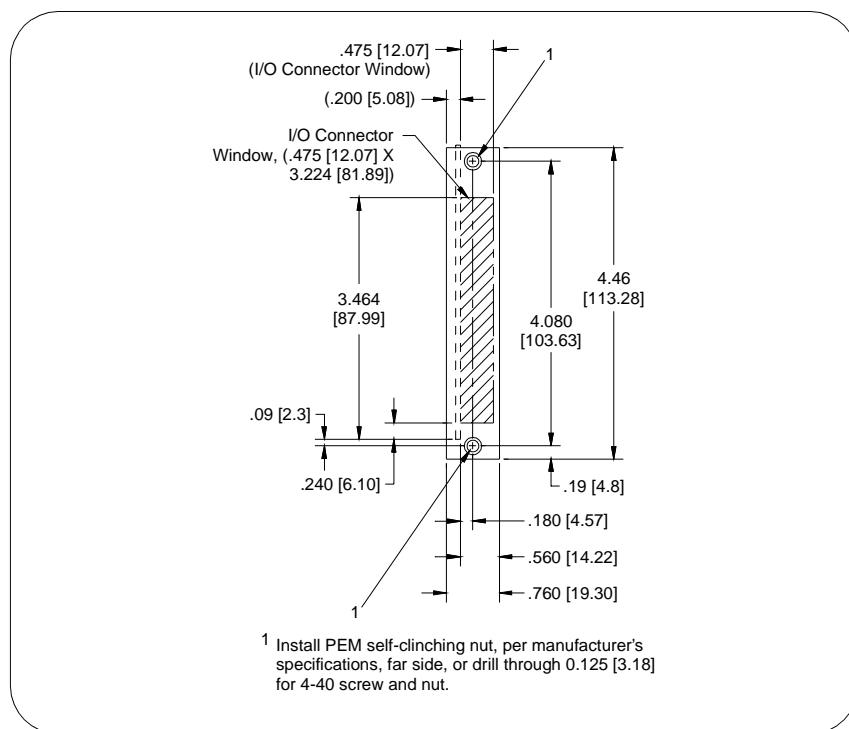
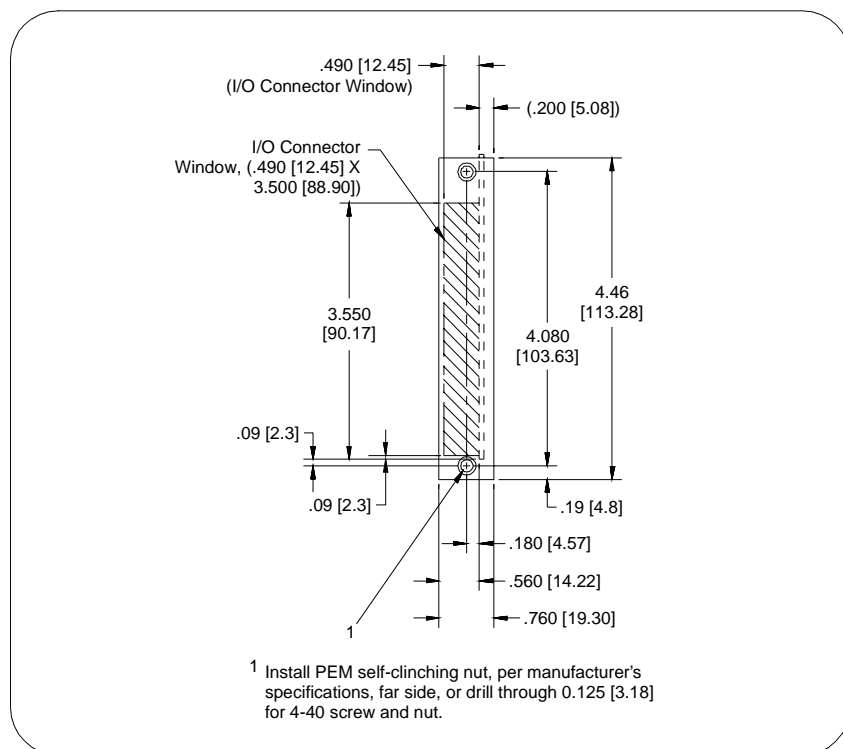

Figure 6-6. Front View of PCI Board Front Panel Bracket
Figure 6-7. Front View of ISA Board Front Panel Bracket
4. For guidelines to build your custom-designed bracket, see Figure 6-6 for a front view of the PCI Board Expansion Bracket or Figure 6-7 for a front view of the ISA Board Expansion Bracket. In the drawings, dimensions are shown as inches [millimeters].